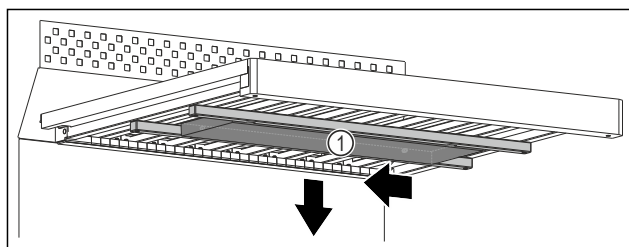

Fig. 95
- Slide the water box Fig. 95 (1) to the left.
- Remove the water box Fig. 95 (1) downward.